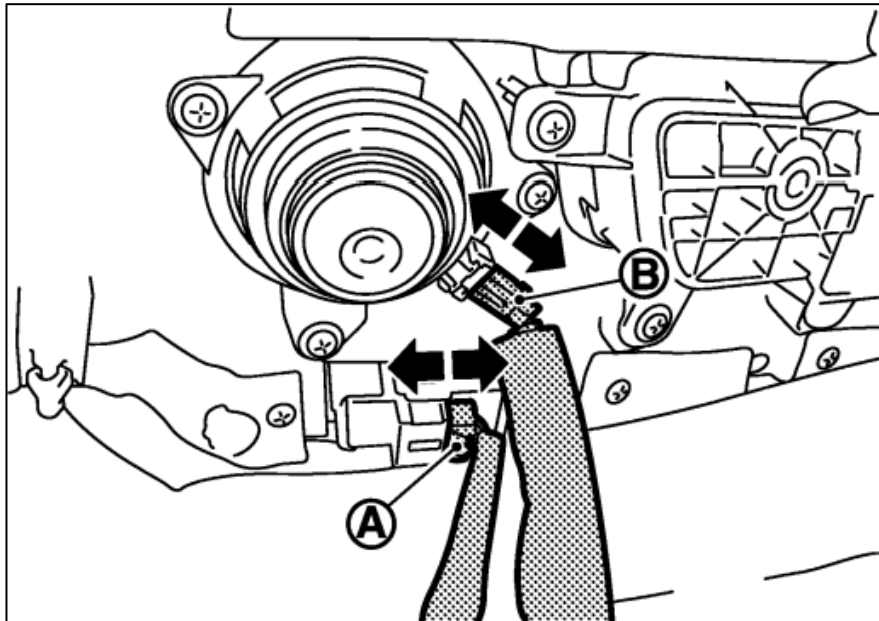

Figure 52
10. Disconnect the (2) two Door Panel Control connectors at the bottom of the Door Panel. *Figure 52.*